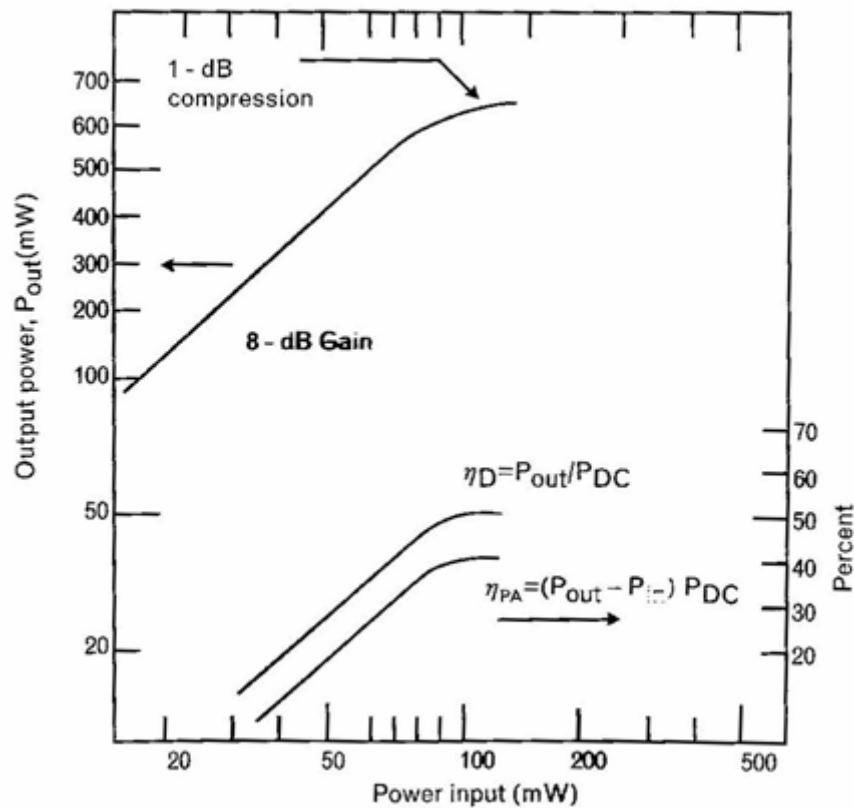

Figure 1.0
- I. A good place to start with understanding RF power amplifier design is to understand the graphs shown below in Figure 1.0
However as the input power is further increased the output no longer follows but starts reducing. When the output power falls to one dB below the extrapolated linear range of output power, the 1 dB output compression point has been reached. This is an important specification for a RF PA. This point is graphically illustrated in Figure 1.0 ( upper trace).
**II.0 Efficiencies:** The lower traces on the right hand side of Figure 1.0 show the other very important figures of merit for a RF PA ( or indeed, any PA). These are the efficiencies.